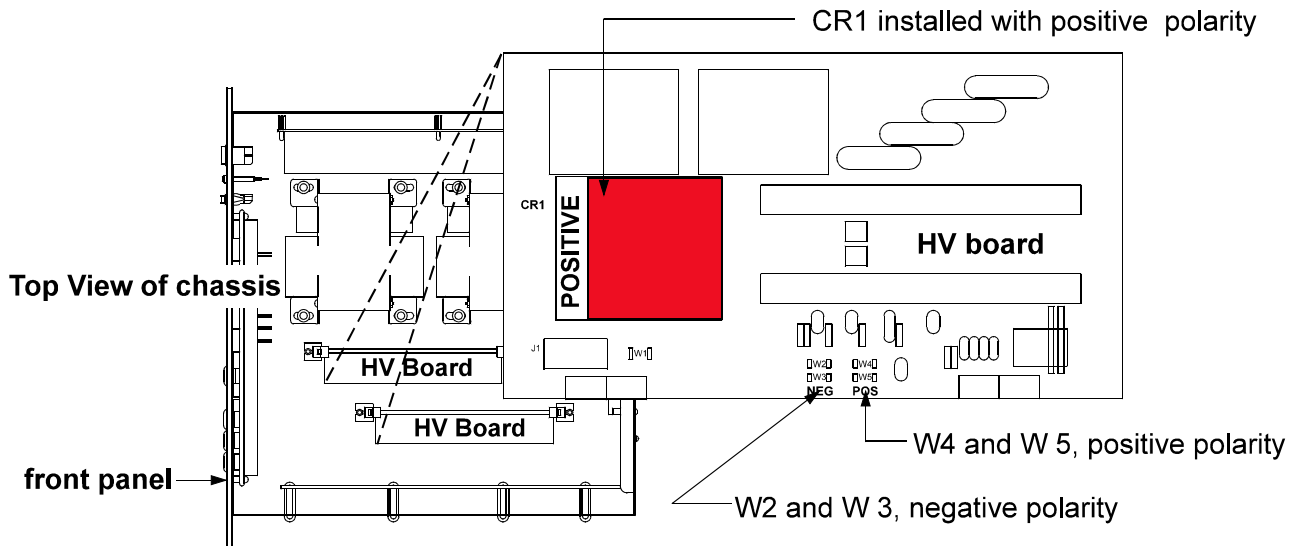

Figure 4-4. Voltage Polarity — Location of Components.
- If the MPC is configured for positive polarity, the word POSITIVE is shown to the left of CR1 as shown in Figure 4-4.
8. Next, unsolder the two polarity jumpers on the bottom-center of the HV board (Figure 4-4), and re-solder the jumpers according to the table below.